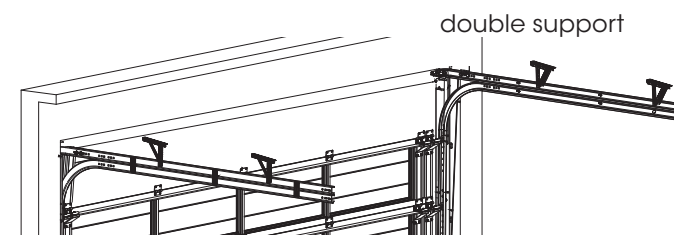

Fig: 3.4.4
! WARNING! For all doors higher than 2450mm and wider than 4700mm, two (2) ceiling supports must be fitted per horizontal track at 1300mm & 2600mm Fig 3.4.4.